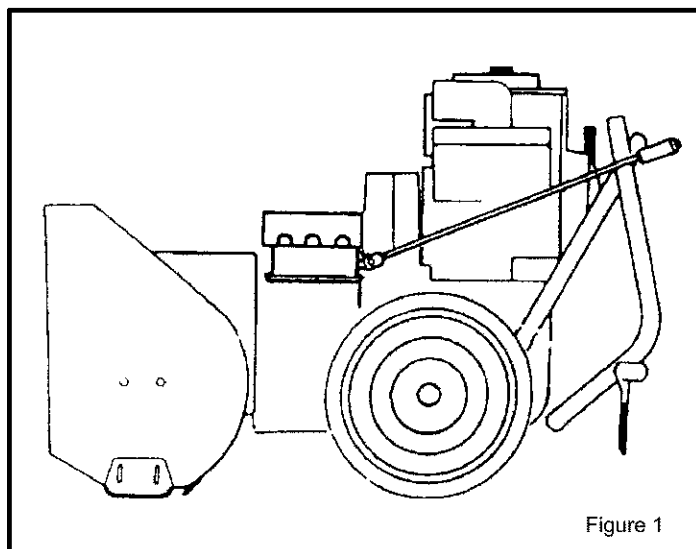

Figure 1
Figure 1 shows the snow blower in the shipping position.
1. Position the snow chute onto the snow chute flange. Align the three holes in the snow chute with holes in snow chute flange. (See Figure 1)
2. Place three 5/16–18 carriage bolts from inside of chute as shown in Figure 1. (hardware is found in parts bag)